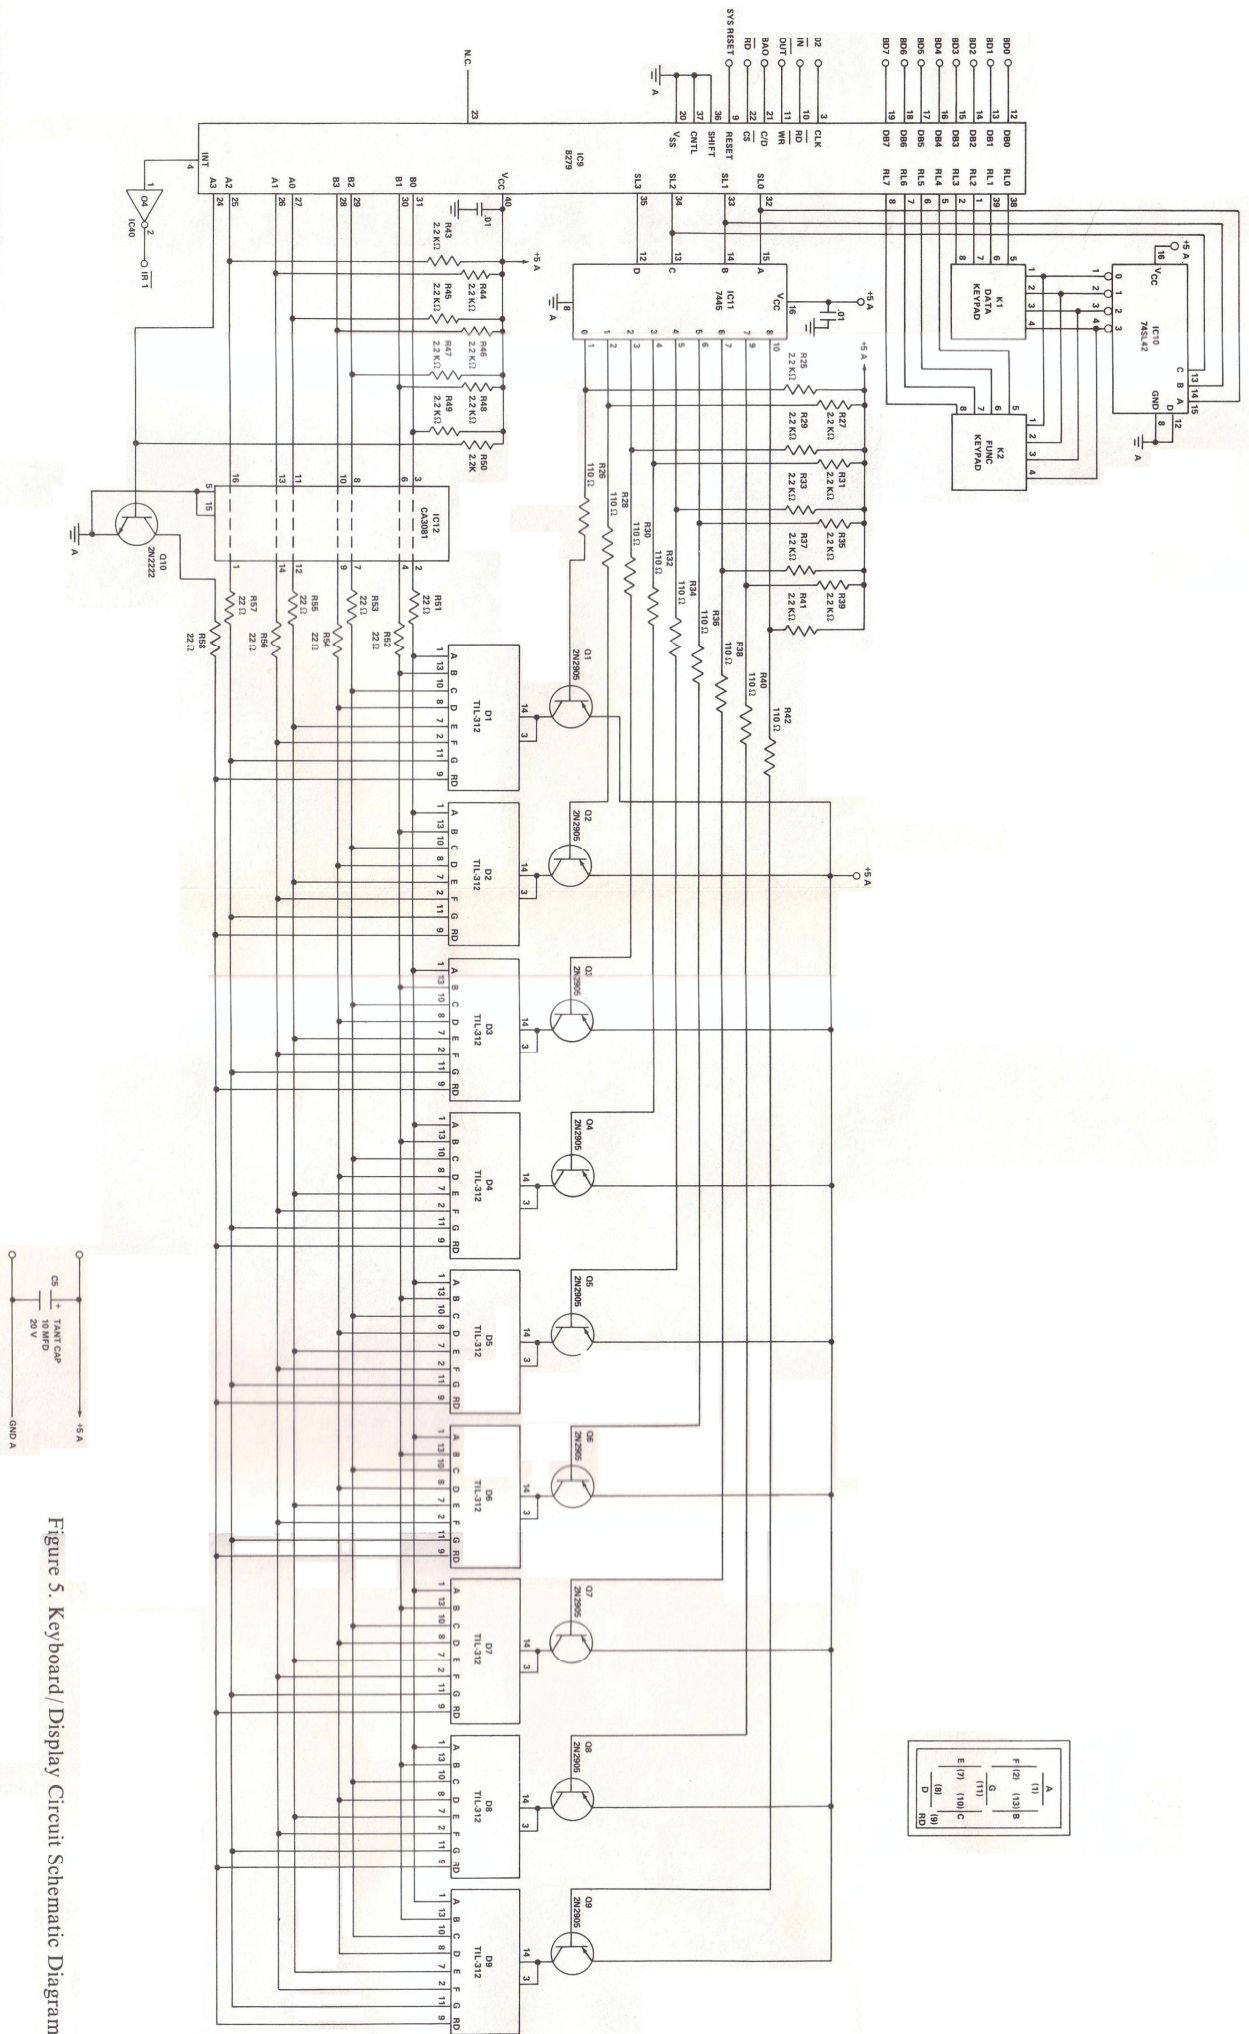

Figure 5. Keyboard/Display Circuit Schematic Diagram
Step 5. Look at the *KEYBOARD/DISPLAY CIRCUIT* schematic diagram (figure 5).
Step 6. On the top right side of the schematic (figure 5) for the *KEYBOARD/DISPLAY CIRCUIT* is the pin number and alpha designation for each section of the seven-segment display. The numbers in parenthesis are the pin numbers for that segment of the display.